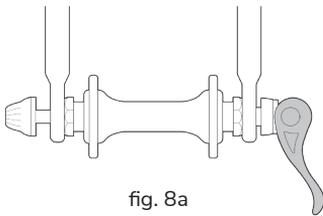
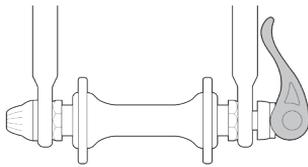
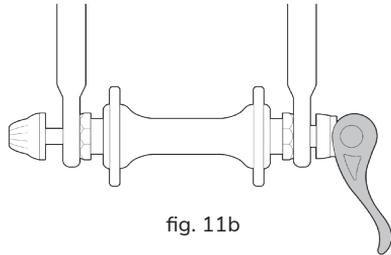

fig. 8a
fig. 11a
fig. 11b
2. If your bike has cam action front wheel retention (Quick release mechanism), move the cam lever from the locked or CLOSED position to the OPEN position (fig 11a, fig 11b). Then go to step (4).
1. If your bike has cam action (Quick Release) front wheel retention, move the cam lever so that it curves away from the wheel (fig. 11b). This is the OPEN position. If your bike has through bolt or bolt-on front wheel retention, go to the next step.
2. With the steering fork facing forward, insert the wheel between the fork blades so that the axle seats firmly at the top of the fork dropouts. The cam lever, if there is one, should be on rider's left side of the bicycle (fig. 8a). If your bike has a clip-on type secondary retention device, engage it.
3. If you have a traditional cam action mechanism, holding the cam lever in the OPEN position with your right hand (fig. 11b), tighten the tension adjusting nut with your left hand until it is finger tight against the fork dropout (fig. 8a). If you have a cam-and-cup system: the nut and cup will have snapped into the recessed area of the fork dropouts and no adjustment should be required.
(a) With a cam action system (Quick Release), move the cam lever upwards and swing it into the CLOSED position (fig. 11a). The lever should now be parallel to the fork blade and curved toward the wheel. To apply enough clamping force, you should have to wrap your fingers around the fork blade for leverage, and the lever should leave a clear imprint in the palm of your hand.